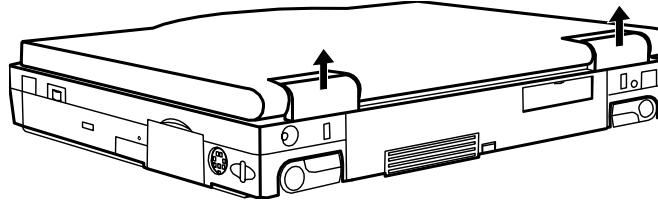

FIGURE 7-22. REMOVING THE HINGE COVERS
2. REMOVE THE TWO HINGE COVERS.(REFER TO FIGURE 7-22 ON THE NEXT PAGE).
3. REINSTALL THE TWO HINGE COVERS. (REFER TO FIGURE 7-22 EARLIER).
4. REINSTALL THE TWO HINGE COVERS. (REFEER TO FIGURE 7-22 EARLIER).